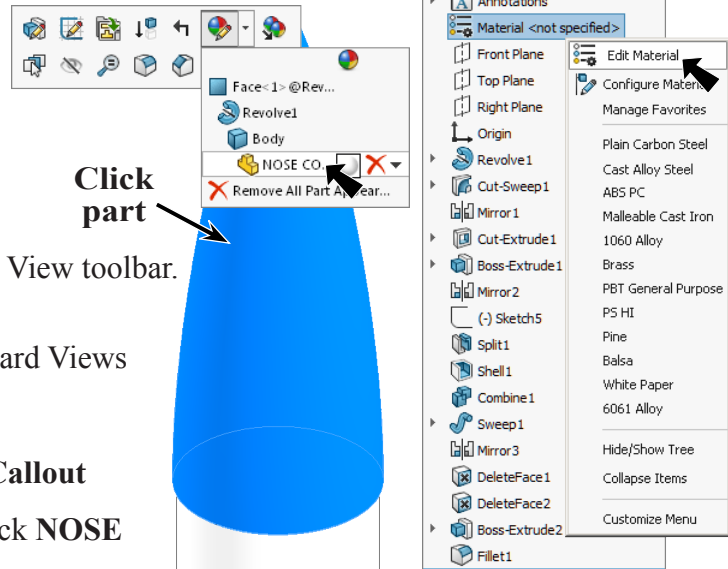

Fig. 82
Step 1. Right click Material  in the Feature Manager and click **Edit Material**, Fig. 82.